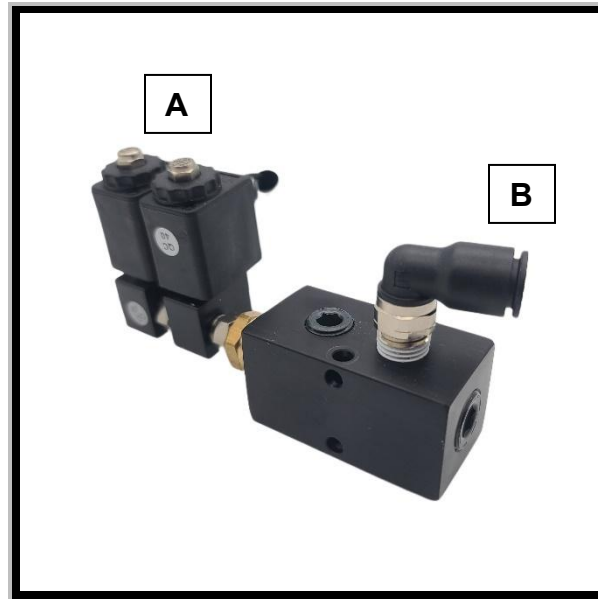

Figure 1
- 1-A) Assembly of the Air Locker Manifold. It is important that all the pieces are assembled as shown in **Figure 1**. The ARB air locker valves will be oriented facing up from what will be the top of the manifold assembly when bolted in place. Assemble your air locker valves (**A**) in series then thread into the manifold. Tighten to achieve the correct orientation while ensuring a tight seal. Install the 90 elbow fitting (**B**) and tighten. Only apply Teflon tape to the item indicated below.